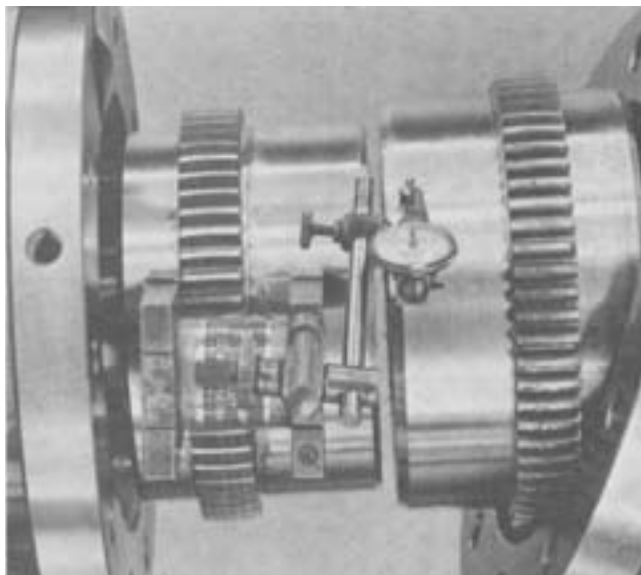

Figure 3 — Angular Alignment
B. ANGULAR ALIGNMENT — Position dial indicator as shown in Figure 3, to sweep face of adjacent hub as near the outside diameter as possible. Adjust indicator probe for mid-point of travel.